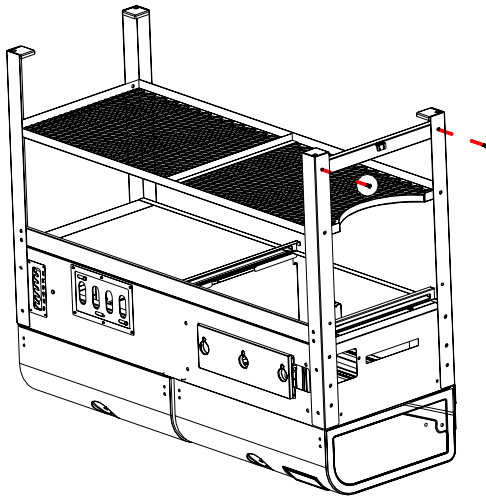

Fig. 7
*Locate:* The tubular Support Brace, (2) M6x15 bolts
Refer to Fig. 7 and attach the Support Brace to the **INSIDE** of the Left Side Front and Rear Legs using (1) M6x15 bolt at each end of the Brace.